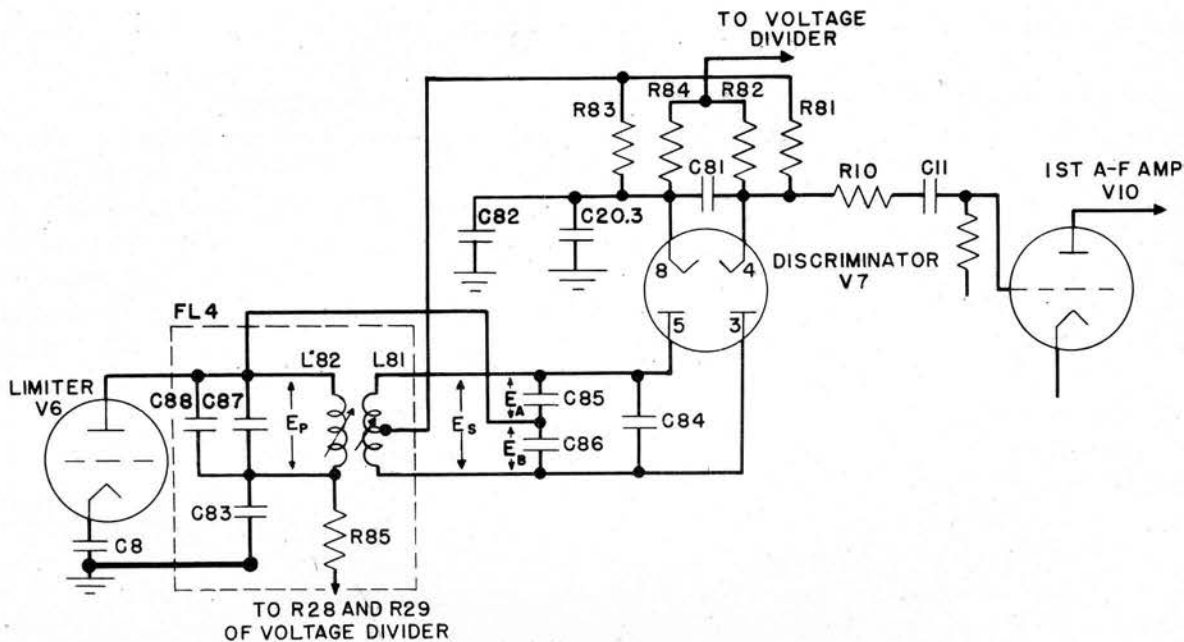

Fig. 27a. Radio Receiver BC-683-A: Functional Diagram of Discriminator
*e. Discriminator.* The purpose of the discriminator is to transform the received intermediate-frequency currents (which are frequency-modulated) into amplitude variations at audio frequencies. A functional diagram is shown in Fig. 27a.
The discriminator uses the phase shift between the primary and secondary windings of the intermediate-frequency transformer at the input of V7. Look at the diagram, Fig. 27a; the signal voltage across the primary L82 is shown as  $E_p$ . The tapped secondary winding L81 is shown as two windings in series. The induced voltage across these two windings is shown as  $E_s$ . Voltage  $E_s$  is developed across the capacitors C85 and C86 in series. Since C85 and C86 are very closely matched, their junction is at the same voltage as the midpoint of the secondary tuned circuit of FL4. The voltage across C85 is impressed on one diode (terminals 5 and 8 of V7). The return path is through capacitors C20.3 (which is paralleled by C82), ground, C83, C87 (which is paralleled by C88), and back to the junction of C85 and C86. The other half of the secondary voltage (developed across C86) is impressed on the other diode (terminals 3 and 4 of V7). The return is through C81, C20.3, ground, C83, C87, and back to the junction of C85 and C86.